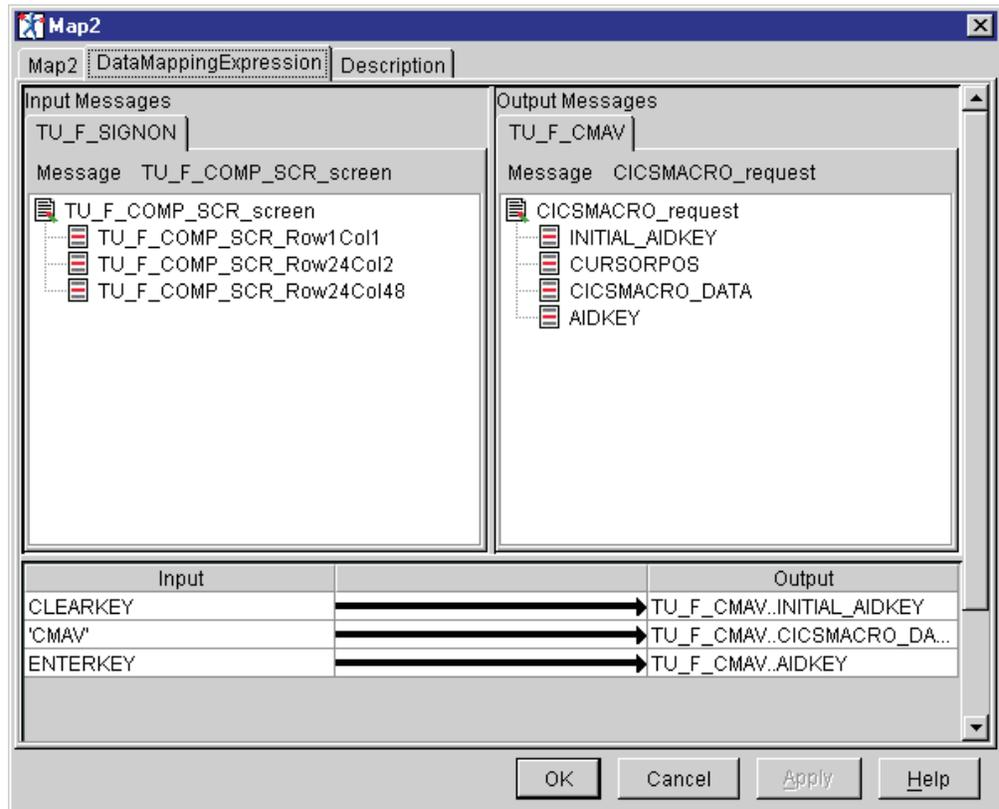

Figure 121. Mapping for Map2 node
- 2) Perform the mapping for the Map2 node as listed in Table 55 on page 160 and shown in Figure 121 on page 160. Map2 maps the CLEARKEY for initially clearing the screen, the 'CMAV' transaction ID for bringing up the Customer screen, and the ENTERKEY.